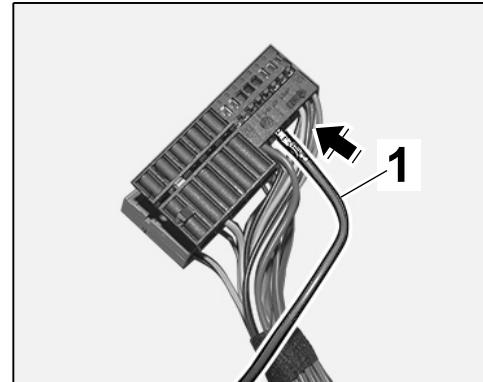

Figure 15
- 2.4.2 Insert socket contact \Rightarrow Figure 15 -1- into chamber A37 of the black plug socket.